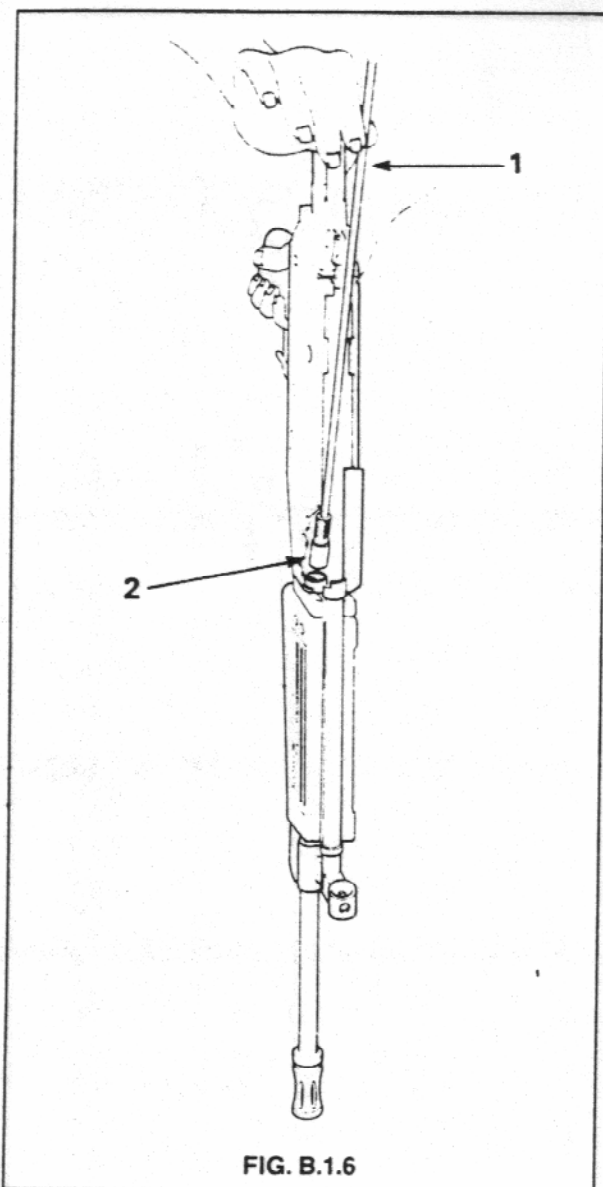

FIG. B.1.6
8. A barrel is serviceable if the bore gauge  $\varnothing 5.573$  mm passes freely through barrel bore (gauge assembled to handle), when inserted from chamber end, with barrel held vertical. See Fig. B.1.6.